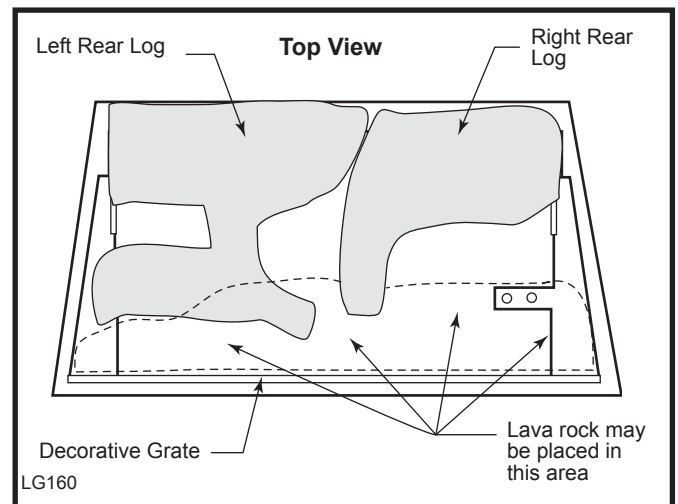

Fig. 41 Lava rock placement.
5. Loosely sprinkle the lava rocks directly on top of the burner just behind decorative grate. (Fig. 41) Use the lava rock to cover brackets on the burner. Do not place lava rocks toward back of burner. The lava rock is shipped inside the bag assembly.